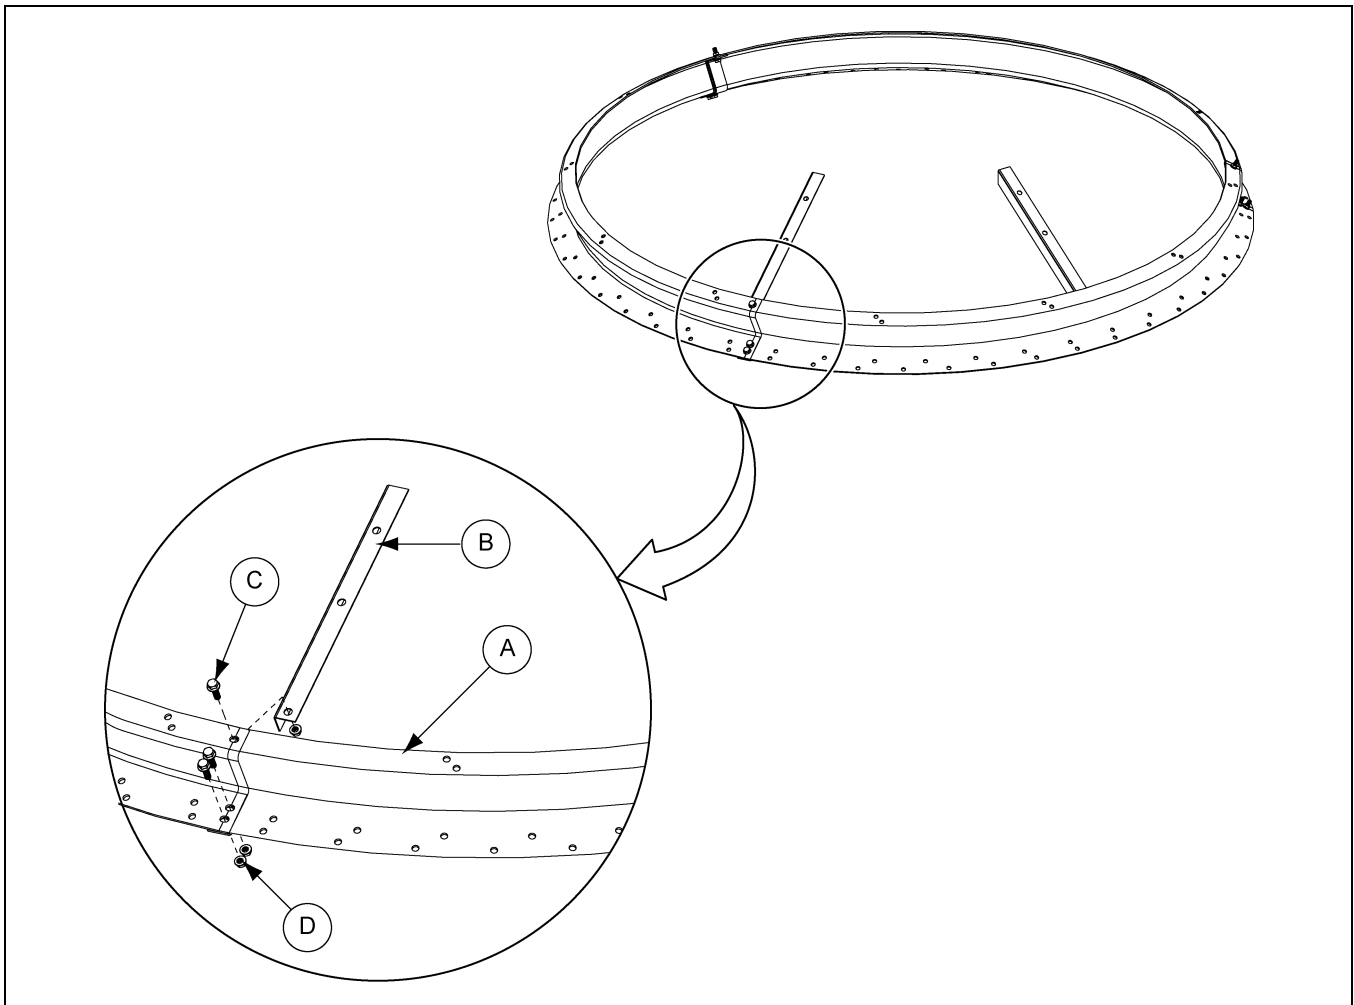

Figure 8F *Assembling the Roof Flashing Angle*
1. Position the roof flashing angles (B) as shown in Figure 8F. Field drill the center collar pieces (A) through the roof flashing angles (B) and install the flange bolts (C) and flange nuts (D). Tighten to the recommended torque specification. See bolt torque specifications on Page 30.